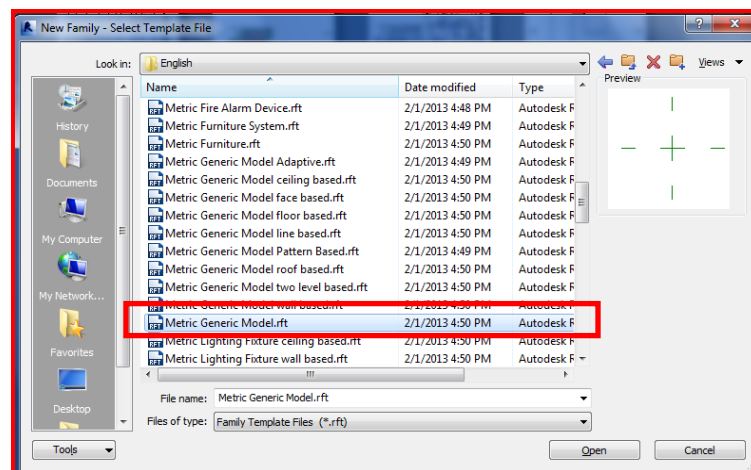

Figure 2.16
2. In the New Family – Select Template File dialog box as shown in Figure 2.16: